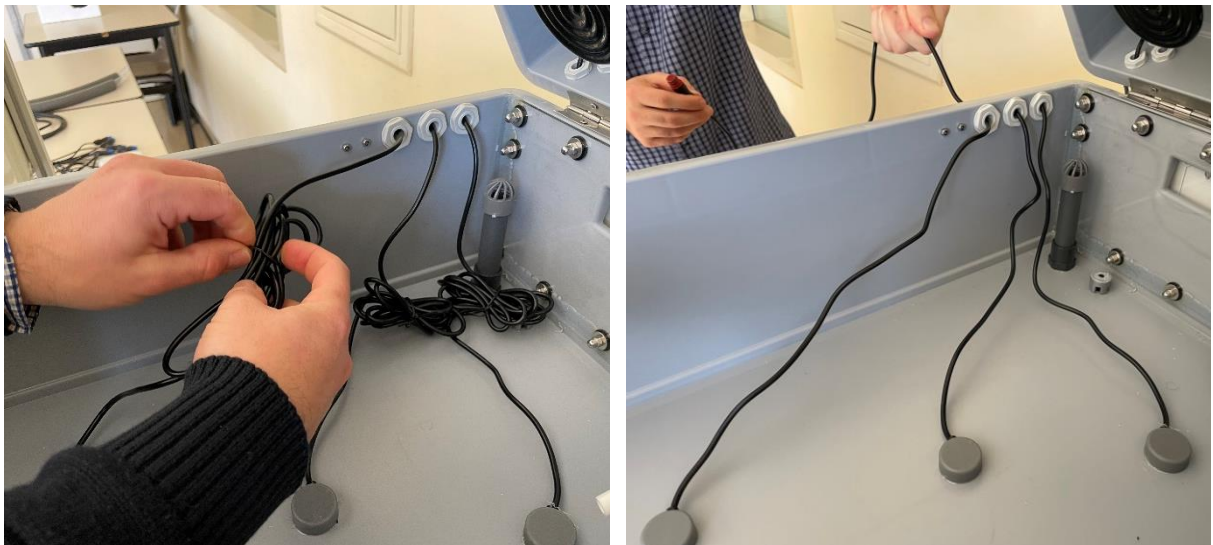

Fig. 6: Assembly step 4.
- 4- Release the tightening wires around the three temperature sensors in the Experiment tank and bring the excess cable out of the tank (**Fig. 6**).